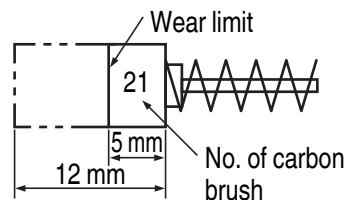

Fig. 4
4. Inspecting the carbon brushes (Fig. 4)